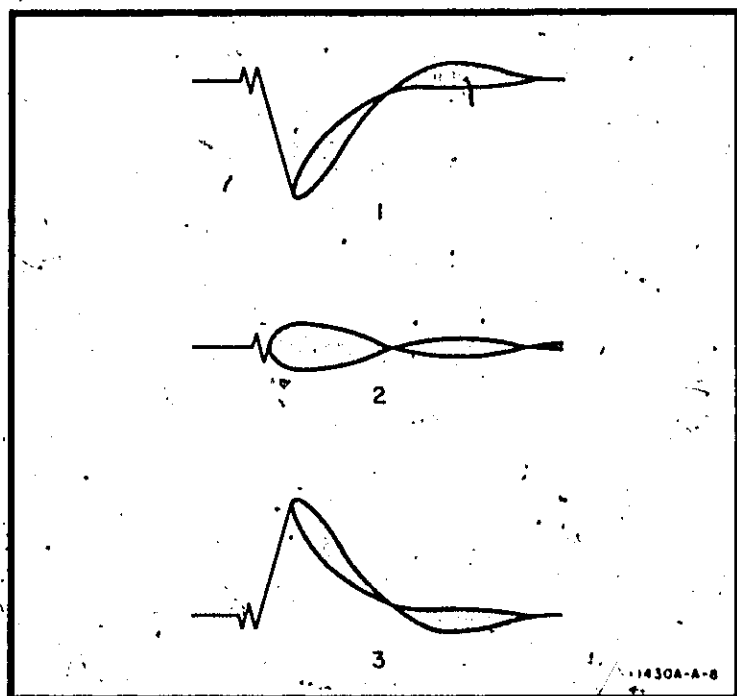

Figure 5-5. Bias Centering Waveforms
g. Using monitor oscilloscope, observe waveform at emitter of Q102 (Q102). The observed waveform should look like one of the three waveforms shown in Figure 5-5.